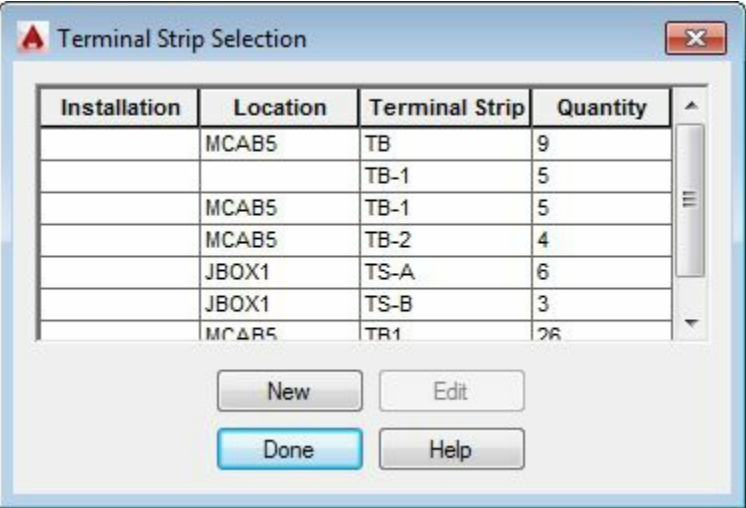

Figure-24. Terminal Strip Selection dialog box
- Click on the **Editor** tool from the **Terminal Footprints** panel. The **Terminal Strip Selection** dialog box will be displayed; refer to Figure-24.